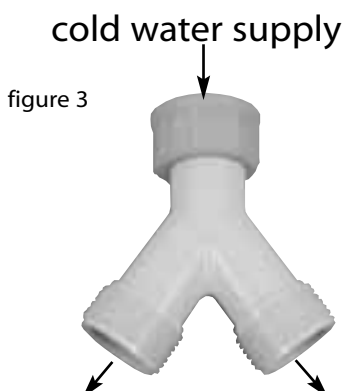

figure 3
A cold fill adaptor (figure 3) and fitting instructions are available from your local Hotpoint authorised Service Centre or by calling the Genuine Parts and Accessories Mail Order Hotline UK on 08709 077 077 or www.theservicecentre.co.uk (or in the Republic of Ireland on (01) 842 6836).
- 4 Attach the drainage hose securely to the under sink drainage unit, using a hose clip (see figure 3).